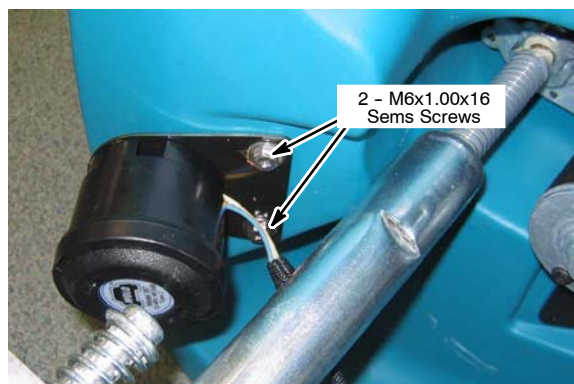

Fig. 48
2. Using two M6x1.00x16 sems hex screws [p/n 1034731], attach the horn to the machine as shown (Figure 48).